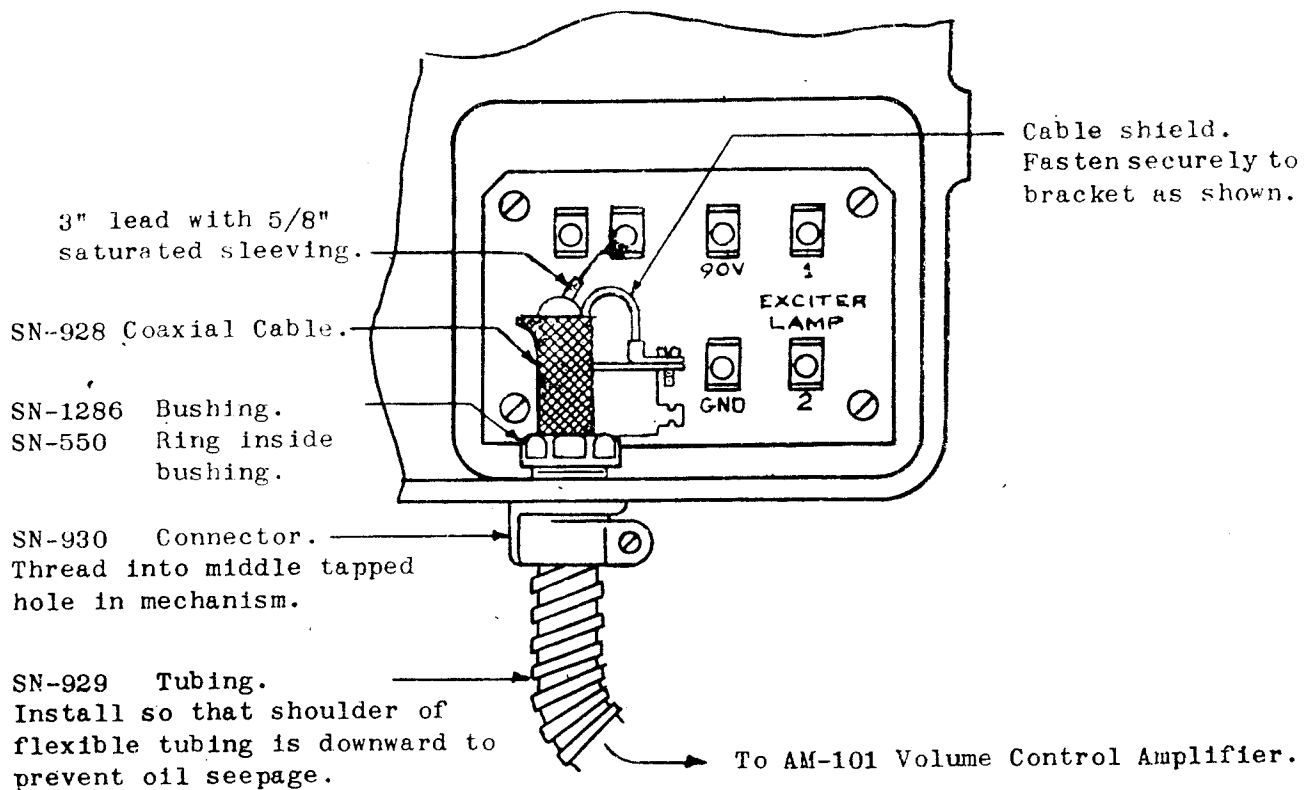

FIGURE 1. INSTALLATION OF SH-2100 IN SH-1000 SOUND MECHANISM
- A. Install the SH-2100 per Figures 1 and 2 on Page 2.